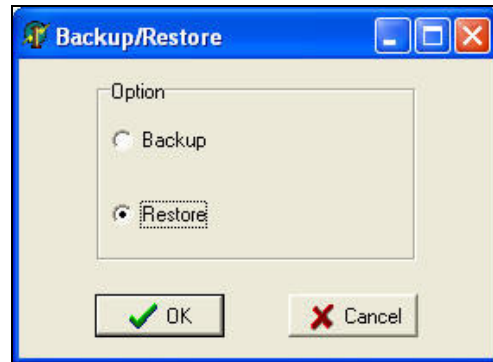

Figure 31.2.7
- From the **“Backup / Restore”** window select **Restore** (Figure 31.2.7).